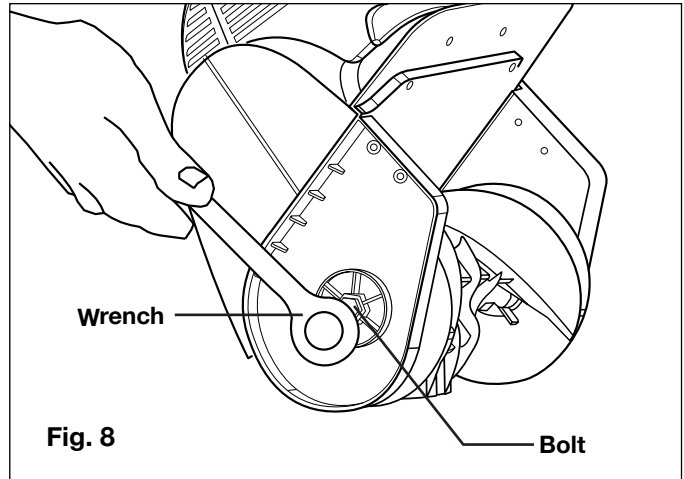

Fig. 8
1. Use a wrench to remove the bolt and the washer on the right side of the housing (Fig. 8).